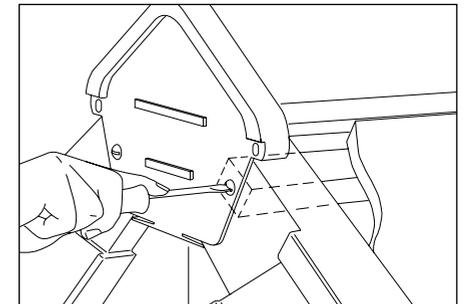

Fig. 8 – Screw ridge end cap
- 16 If required, trim flange of ridge end cap to fit between top course verge units (Figs. 9 and 10). Screw ridge end cap to top course verge unit, locating stainless steel screws through lower, partly formed fixing holes (Fig. 8).